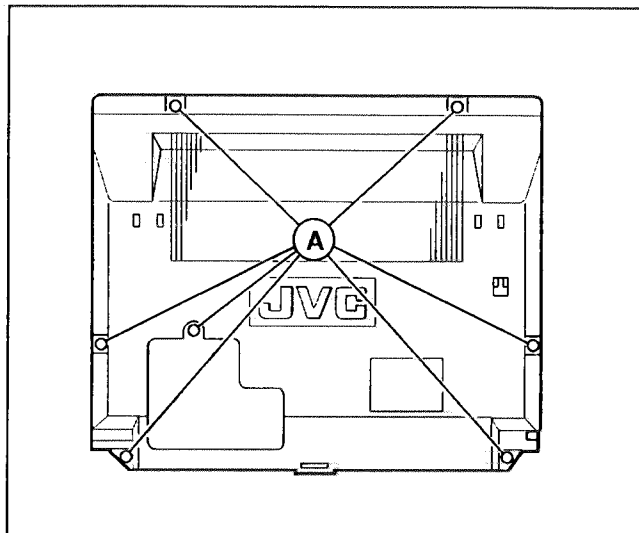

Fig. 1
1. Remove the seven screws marked ① as shown in Fig. 1.